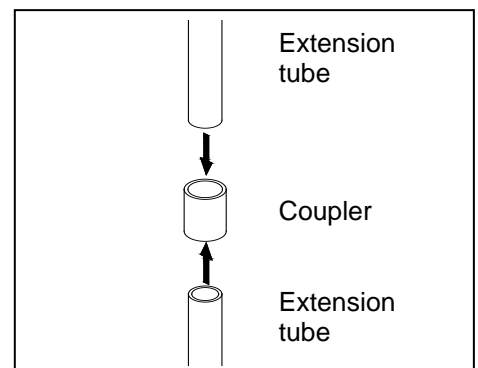

Fig. 6
6. Connect the two extension tubes with the coupler. Fig. 6